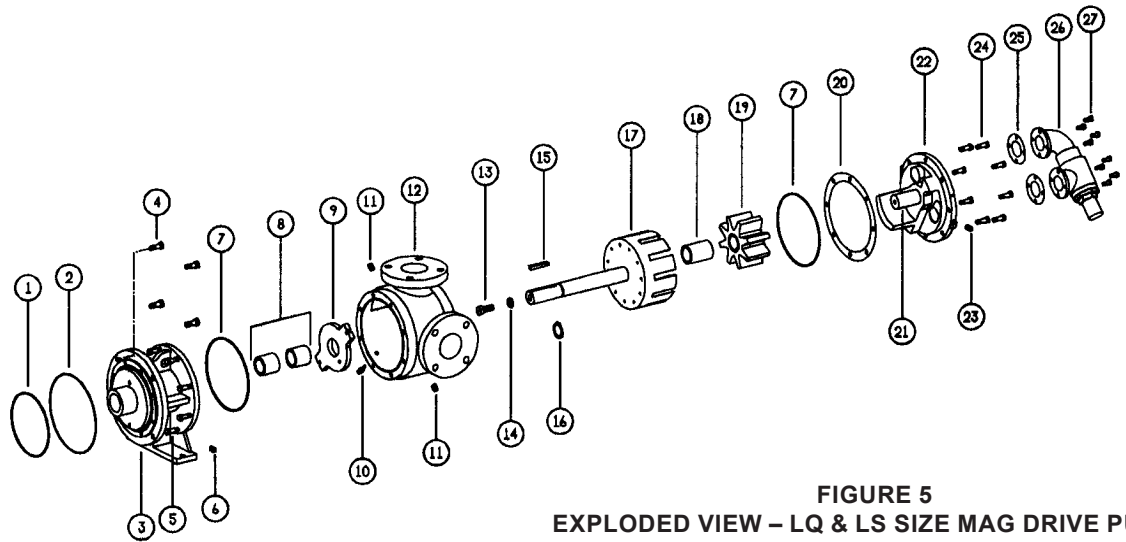
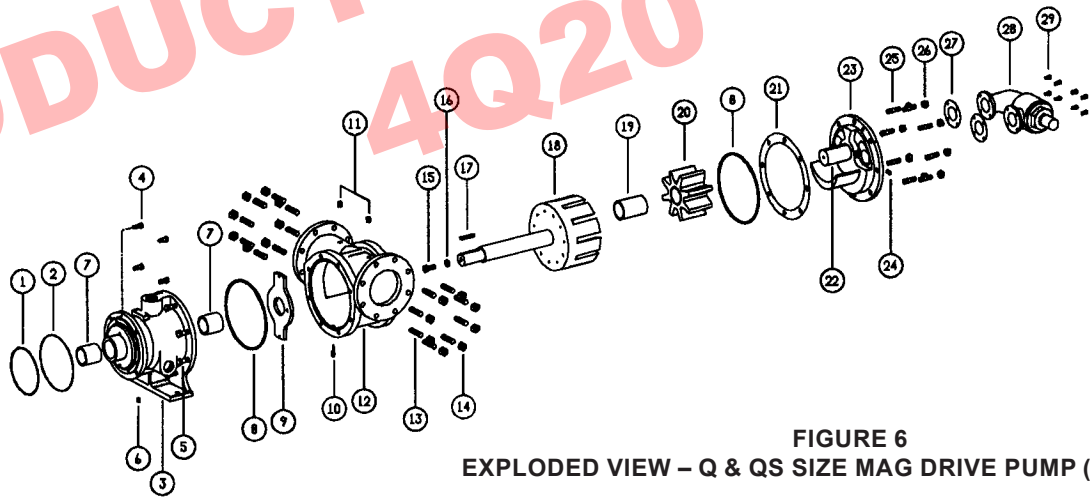

FIGURE 5
FIGURE 6
1. See Figure 5 or Figure 6 on page 5 for name of parts.